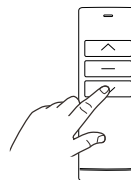

Fig. 18
- 3. CLOSE / set lowest position** Hold down the **CLOSE button** (Fig. 18) until the desired lowest position is reached. Adjust the end position with the **OPEN / CLOSE buttons**.